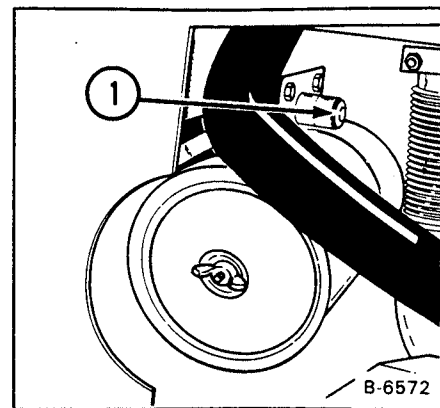
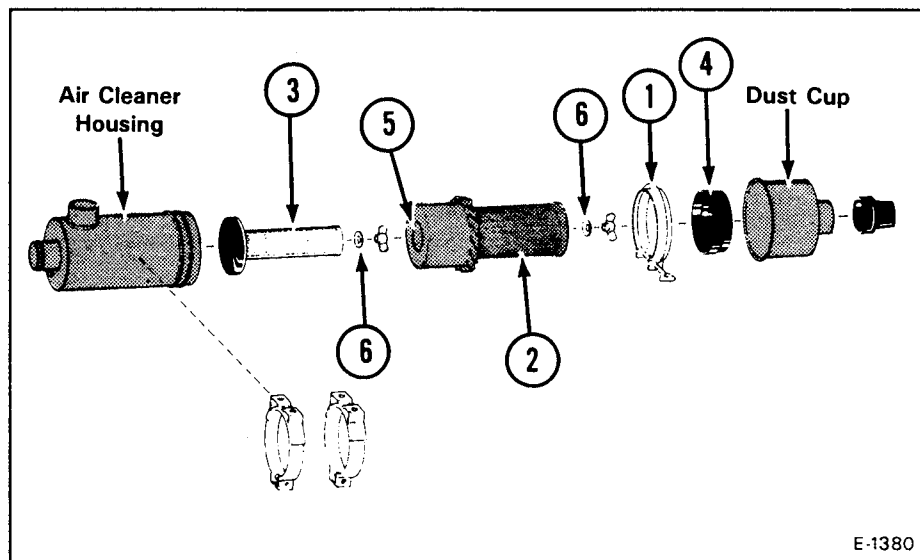

Fig. 1-7 Condition Indicator
Fig. 1-8 Air Cleaner Assembly
(3) Replace the large (outer) filter element only when the red ring shows in the window of the condition indicator (Fig. 1-7).
(4) Replace the inner filter element every third time the outer filter is replaced or when the red ring still shows in the indicator window after the outer filter is replaced.
**NOTE:** Before replacing the filter element, push the button on the condition indicator (Fig. 1-7, Item 1) and start the engine. If the red ring does not show, do not replace the filter element.
(1) Stop the engine.
(2) Loosen the clamp on the dust cup (Fig. 1-8, Item 1). Remove the dust cup and the outer element (Fig. 1-8, Item 2). Do not remove the inner element (Fig. 1-8, Item 3) unless it must be replaced as indicated above.
(3) Remove the rubber boot (Fig. 1-8, Item 4) and empty the dust cup.
(4) Clean the inside of the filter housing so that the element has a smooth surface to contact at the seal (Fig. 1-8, Item 5). A tight seal is necessary to avoid corrosion, especially when the loader is operated in a highly corrosive application (Example: Fertilizer handling).
(5) Install the new filter element(s).
**NOTE:** The washer (Fig. 1-8, Item 6) must be under the wing nut.
(6) Install the dust cup and tighten the clamp. All hoses and clamps must be tight.
(7) Push the button at the indicator (Fig. 1-7, Item 1) to remove the red ring.